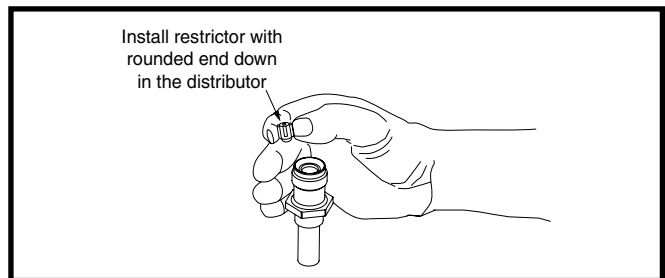

Figure 7. Restrictor Insertion into Distributor Body
4. Insert a light-gauge wire hook between the distributor body and the restrictor orifice while being careful not to scratch either part. Carefully remove the restrictor orifice from the distributor body. See Figure 7.